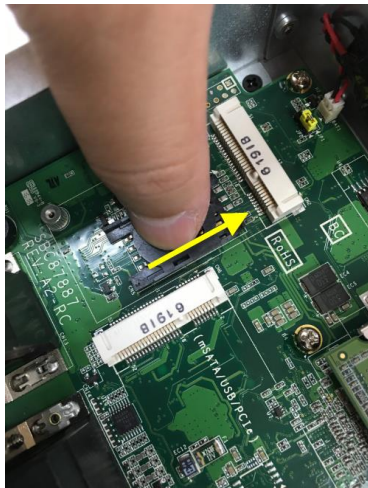
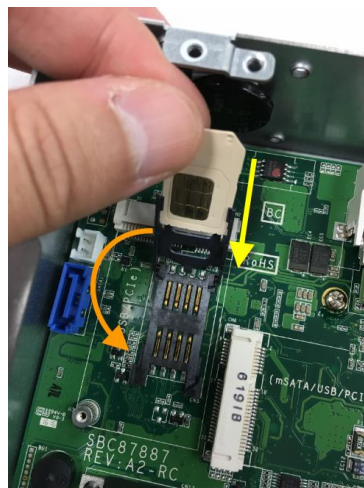
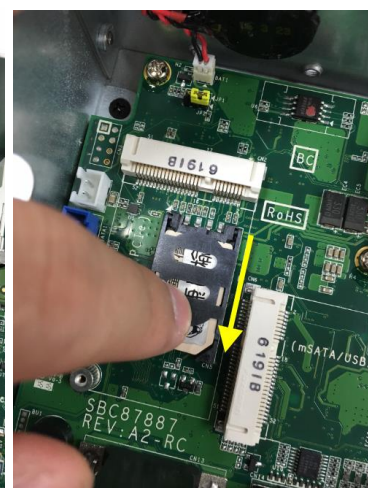

Figure 4-1
Figure 4-2
Figure 4-3
**Step4** Following (Figure 4-1) push the SIM slot back to unlock SIM slot, inserting the SIM card and put it back(Figure 4-2), and lock the SIM slot(Figure 4-3).